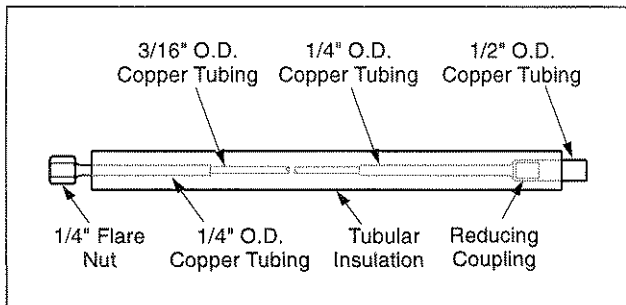

Figure 9. LN₂ Extension Tube Assembly
2. Connect one end of the LN₂ extension tube (insulated coil of 3/16 in. OD soft copper tubing, refer to Figure 9) to the LN₂ supply tube and connect the other end to the discharge tube. These connections are on the outside of the freezer cabinet.
2. Connect one end of the LN₂ extension tube (insulated coil of 3/16 in. OD soft copper tubing, refer to Figure 9 on page 5) to the LN₂ supply tube and the other end to the discharge tube. These connections are on the outside of the freezer cabinet.